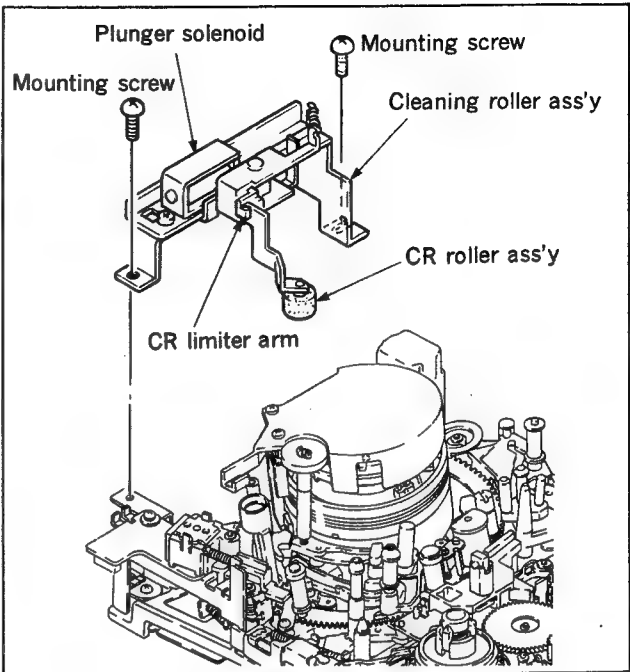

Fig. 4-5-1 Cleaning roller ass'y removal
A The cleaning roller ass'y can either be replaced with complete whole assembly or the component part of the cleaning roller ass'y. The following is a description of the component part replacement of the cleaning roller ass'y. (See Fig. 4-5-1.)
Remove the two screws shown in Fig. 4-5-1, then remove the cleaning roller ass'y.
2. Cleaning roller ass'y replacement (Fig. 4-5-1)